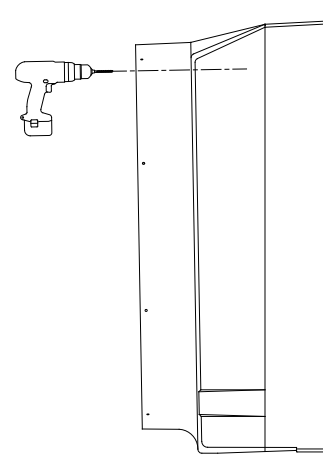

Figure 9
From outside of Fan Housing, drill (4) $\frac{15}{32}$ " holes in Housing using pilot holes from previous step as a guide. See Figure 9. Be very careful as to **NOT** drill into Threaded Insert. It is recommended that the bolts installed in outermost holes be loosened or removed to move Strut Assembly away from Housing before drilling.